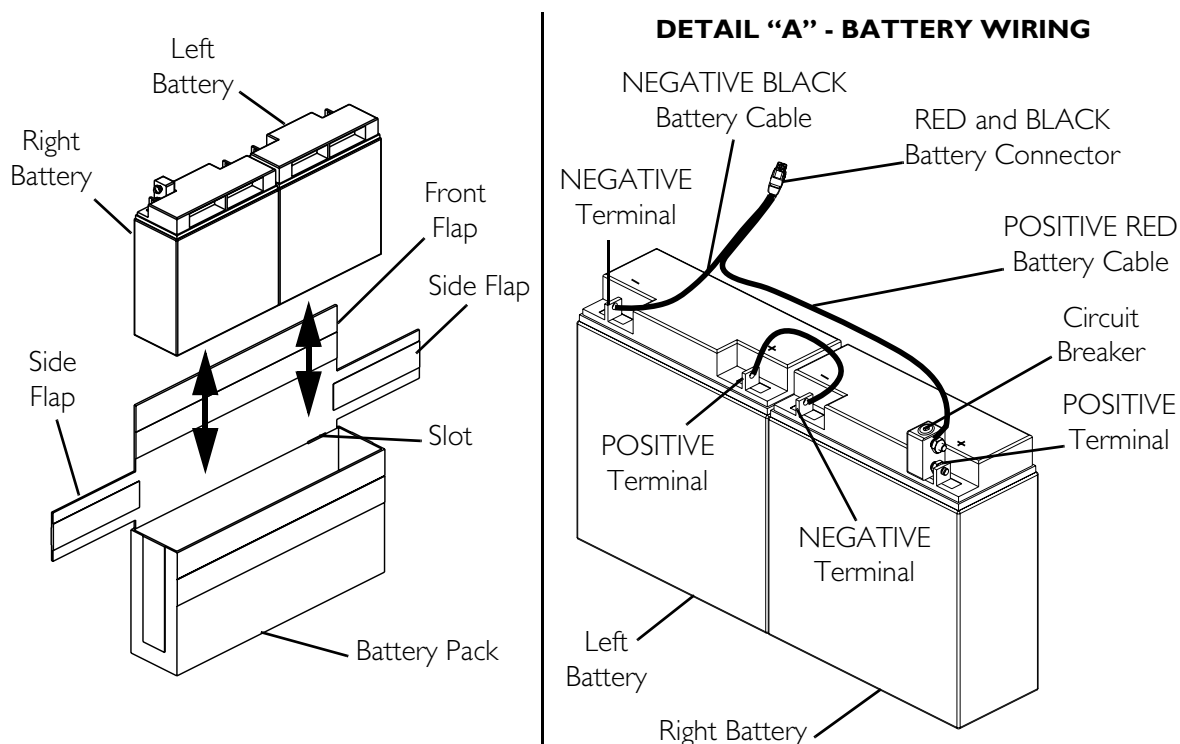

FIGURE 8.4 Removing/Installing the Batteries From/Into the At'm Battery Pack
NOTE: For this procedure, refer to FIGURE 8.4 on page 48.
1. Install the batteries into the battery pack in the orientation shown in FIGURE 8.4.